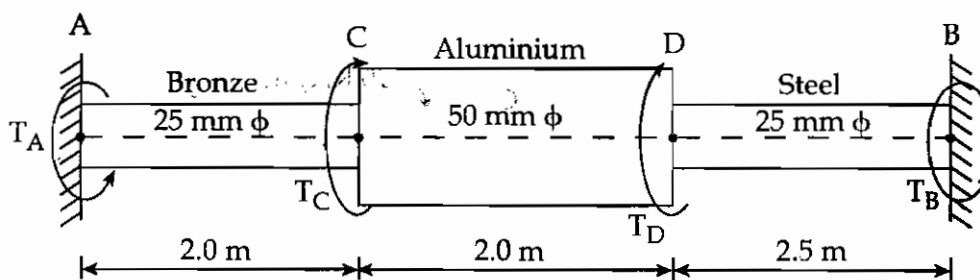

Figure 6
- (b) A shaft composed of segments AC, CD and DB is fastened to rigid supports and loaded as shown in Figure 6, for bronze $G = 35 \text{ GPa}$, Aluminium $G = 28 \text{ GPa}$ and for steel $G = 83 \text{ GPa}$. Determine the maximum shearing stress developed in each segment. $T_C = 300 \text{ N.M}$ and $T_D = 700 \text{ N.M}$.